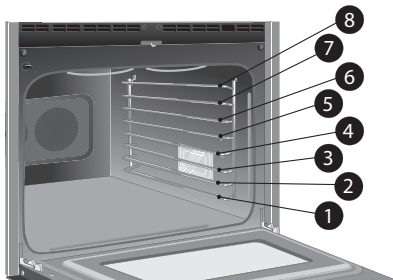

Figure 12: Rack positions
- For best results when baking cakes using 2 racks, place cookware on oven rack positions 2 (glide rack) or 3 (flat rack) or and 6 (glide rack) or 7 (flat rack). (Figure 12)
- Allow at least 2 inches (5 cm) space between the food items to ensure proper circulation (Figure 12).